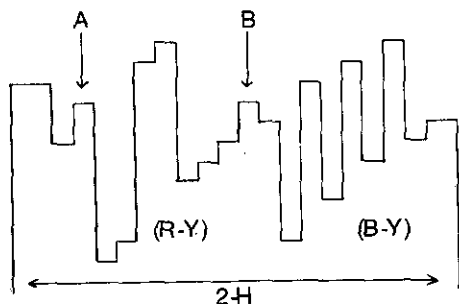

Figure 6. Pin 24 Waveform
- 4) Adjust SL506 so that the DC LEVEL of the parts A, B (figure 6) may coincide.